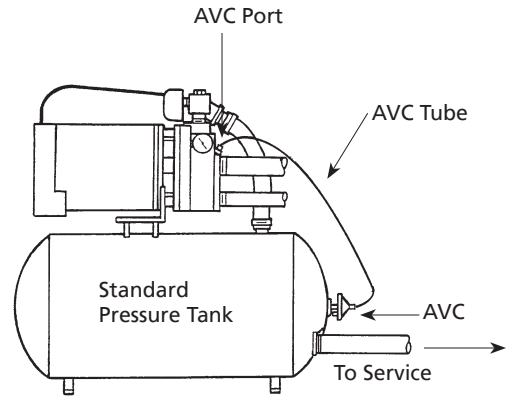

Figure 23A - AVC Connection Deep Well
2. On deep well installations the AVC tubing is connected to the tapped hole located directly above the suction pipe tapping of the pump case (See Figure 23A).